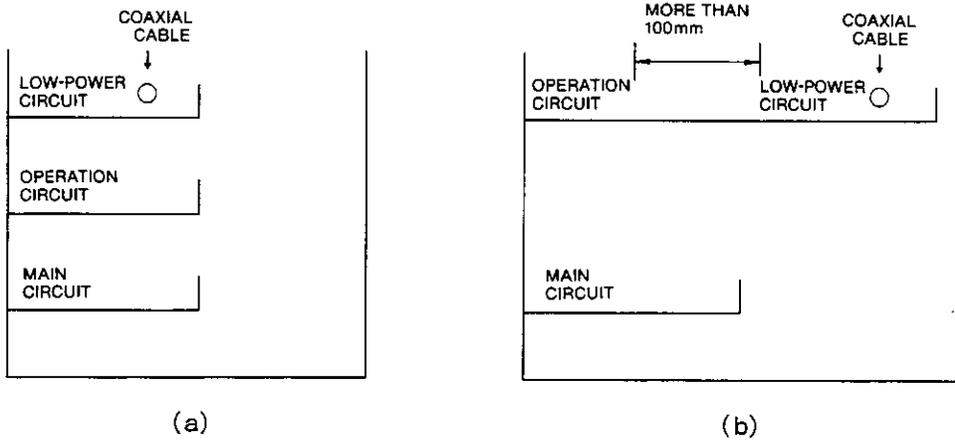

Fig. 2.5 Wiring Duct Separation
- (1) The shielded coaxial cables must be stored in low power electrical circuit ducts, which differ from general operational circuit ducts as shown in Fig. 2.5 (a).
If this is not possible separate the general operational circuit from the low power electrical circuit by more than 100 mm as shown in Fig. 2.5 (b).